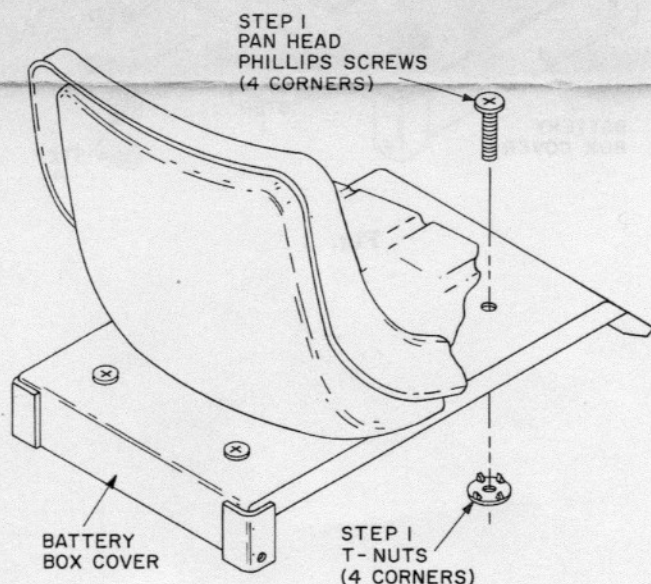

Fig. 1
1. Thread pan-head phillips screws in the corner battery box cover holes into "T-nuts" so the sharp edges of the "T-nuts" penetrate the surface of the cover stiffener. Tighten the screws for maximum penetration. These screws secure the stiffener to the cover when the seat assembly is removed for adjustment. See Fig. 1.
and the holes in their longer sides align with similar pairs of cover holes. Secure the seat springs to the cover with hex-head bolts and plain washers on the top side of the cover threaded into "T-nuts" on the underside. Tighten the bolts to draw the "T-nuts" into the cover stiffener. See Fig. 1.